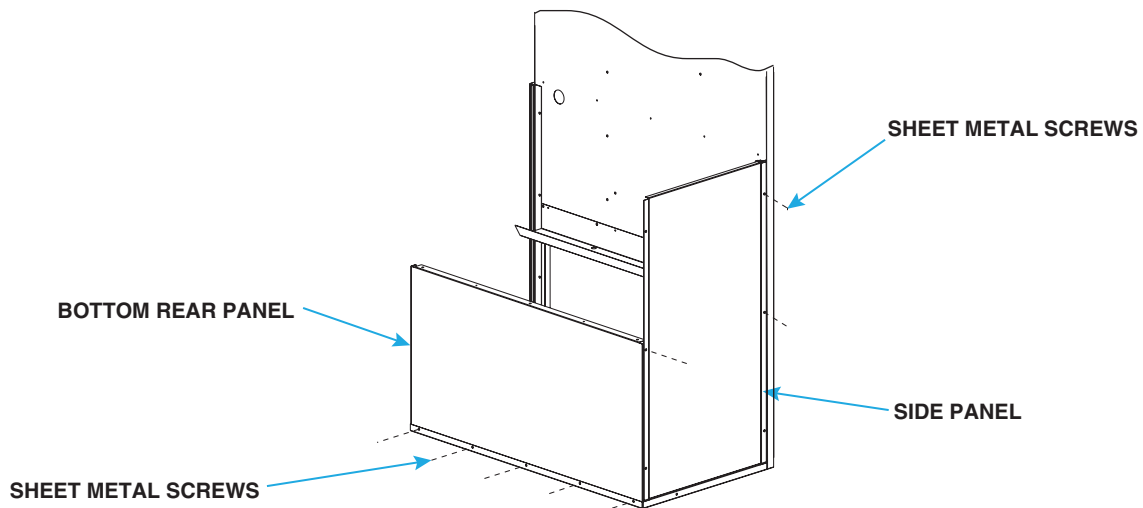

Figure 13. Install Side and Bottom Rear Panels
2. Install side panel and bottom rear panel as shown in **Figure 13**: